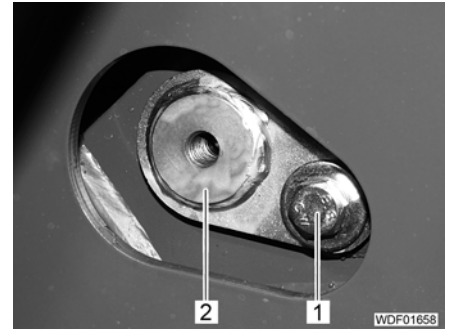

Fig. 284 Bottom side fastening
- Unscrew bolt (Fig. 284,1).
- Remove pin (Fig. 284,2) using a suitable aid (e.g. slide hammer puller).
- Drive in bolt (Fig. 284,2) so that the holes for the locking bolt are exactly aligned.
- Screw in bolt (Fig. 284,1) with washers and spring washer and tighten.